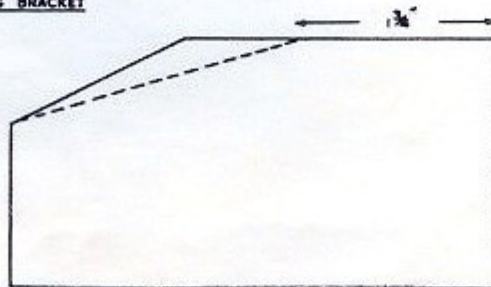

FIG. 5 MODIFICATION TO SHIELD
4. Unscrew 2 countersunk and 2 round head screws which hold the receiver front-end side shield. Remove the shield, then replace the two round head screws. Cut the piece off the shield in accordance with Figure 5 of the attached diagram.